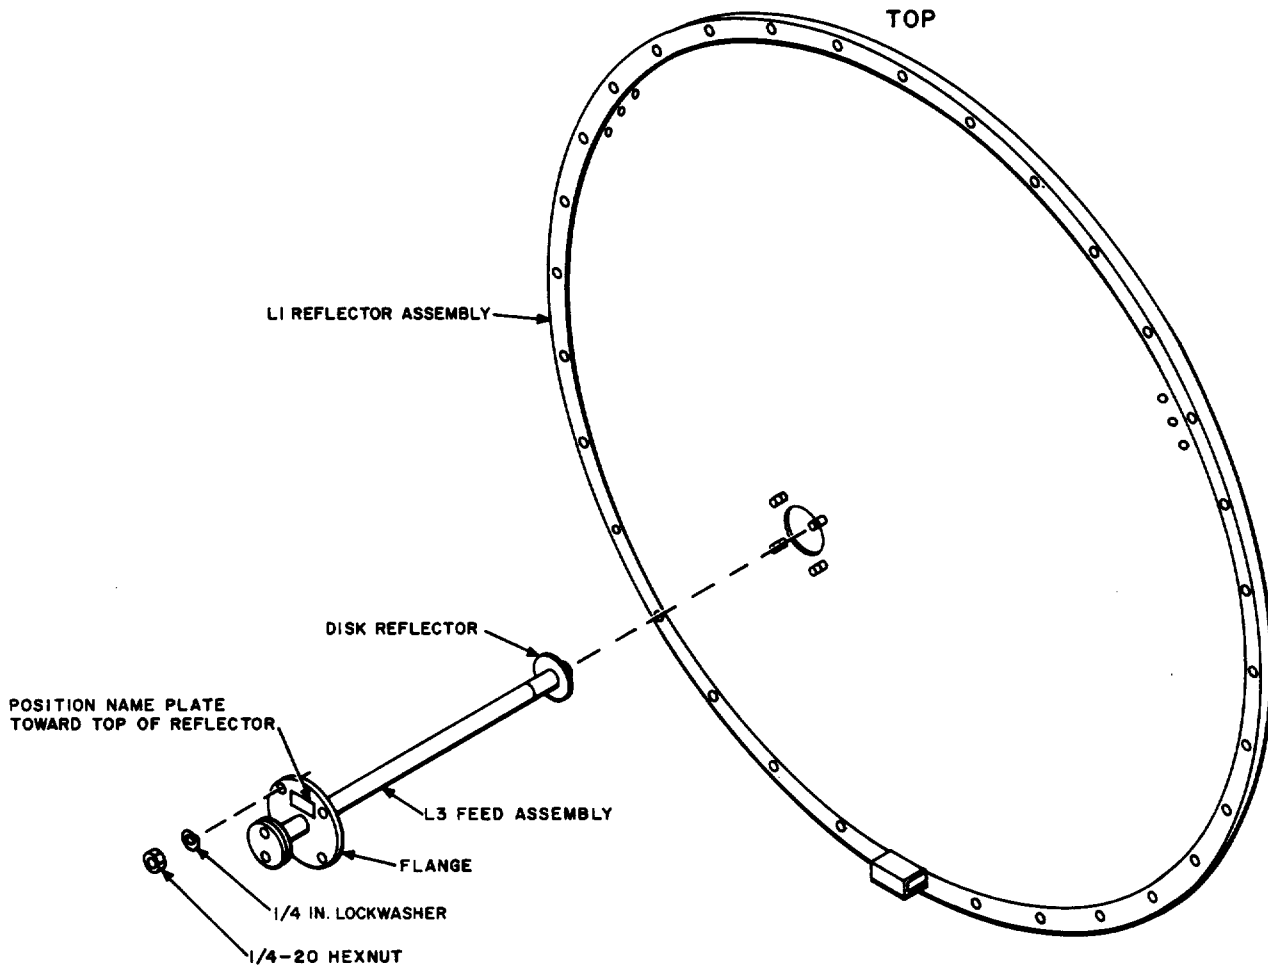

Fig. 2—Installation of L3 Feed Assembly into L1 Reflector
**4.02** Insert the feed assembly, disc reflector first, through the mounting hole in the ring assembly of the antenna reflector (Fig. 2). The nameplate on the feed assembly should face the top of the reflector for optimum transmitting and receiving characteristics.